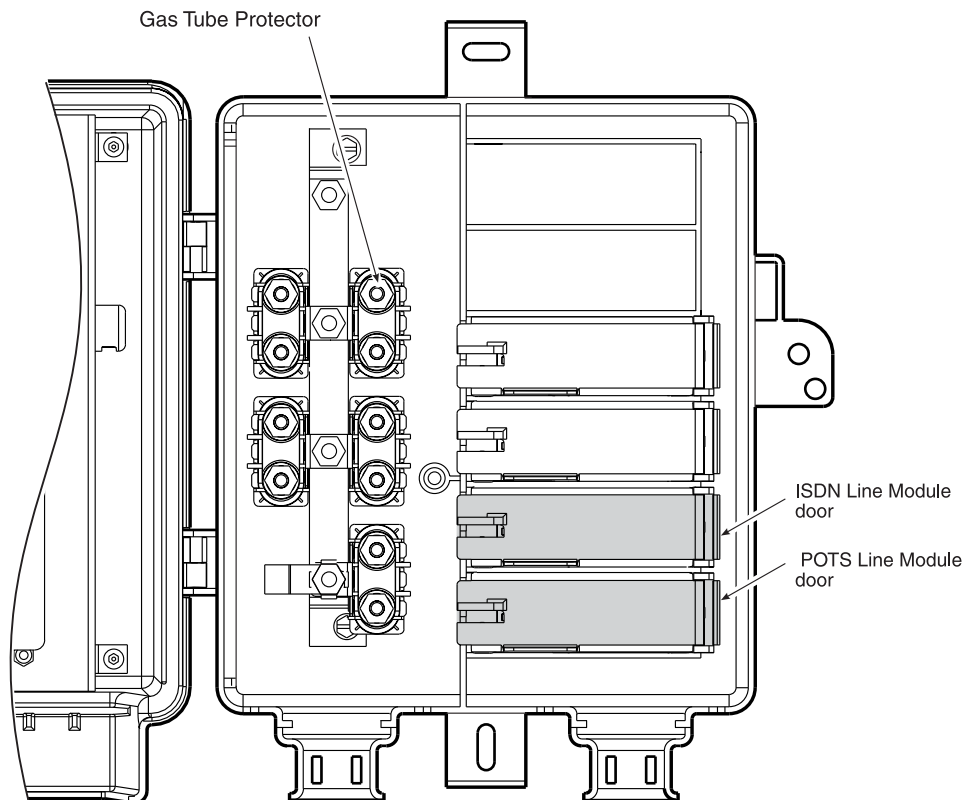

Figure 9. Inserting the ISDN and POTS Wires
- 1 Use a #1 Phillips screwdriver to punch a second small hole in the bottom of the rubber grommet on the right-hand bottom side of the RT enclosure (see Figure 9).
- 2 Lift the appropriate Line Module door (see Figure 9).